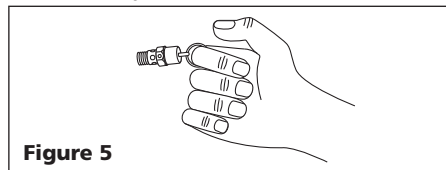

Figure 5
2. Wearing safety glasses, pull the ring on the safety valve (see Figure 5) to release pressure from compressor tank. Use your other hand to deflect fast-moving air from being directed toward your face.
2. Pull ring on safety valve and allow it to snap back to normal position (Figure 5).